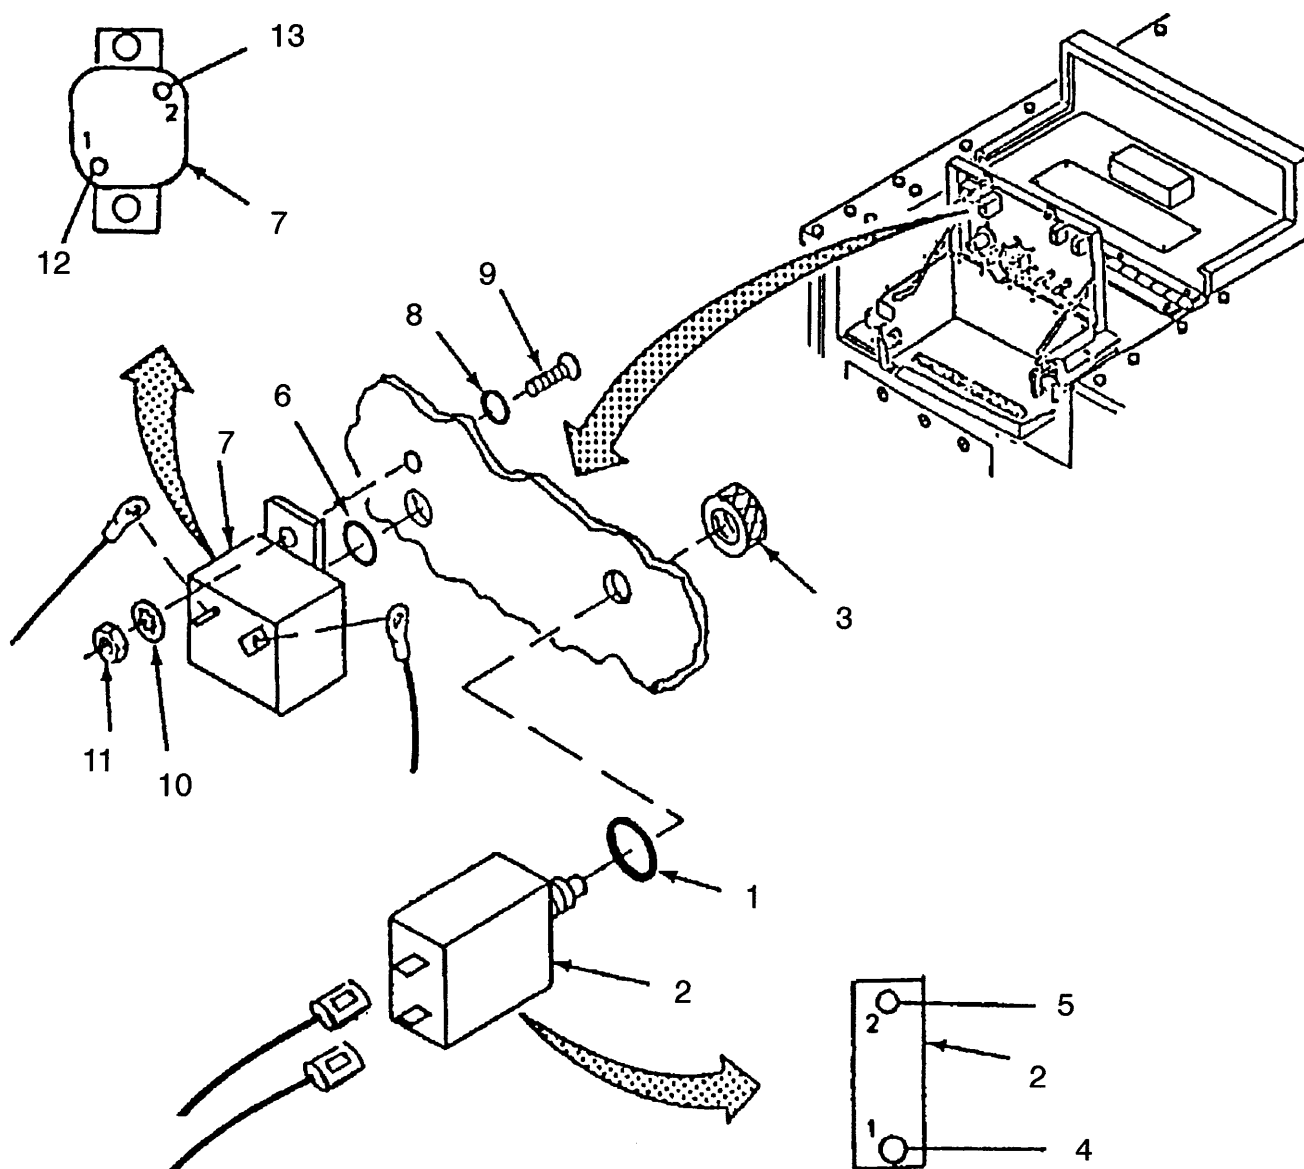

Figure 4-34. Control Box Assembly, Thermostat and Power Circuit Breakers
c. Assembly - continued (Refer to Figure 4-34)
- (19) Install preformed packing (1)(Item 40, App H), THERMOSTAT circuit breaker (2), and nut (3).
- (20) Connect wire CB2-1/TB3-2(4) and wire CB2-2/TB3-1(5).
- (21) Install preformed packing (6)(Item 39, App H), POWER circuit breaker (7), two preformed packings (8)(Item 38, App H), two screws (9), two lockwashers (10) and two nuts (11).
- (22) Connect wire CB1-1/TB1-1(12) and wire CB1-2/S1-5(13).